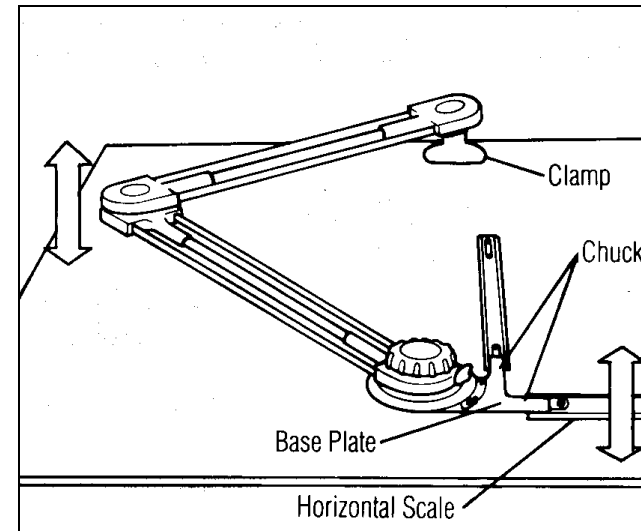

Figure 11
A. Elbow Elevation (Figures 11 & 12)